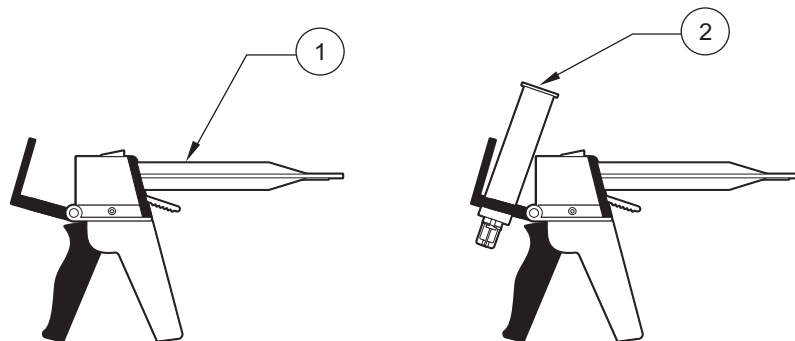

Figure 35 Loading the Cartridge into the Dispensing Gun
3. Load the oil cartridge into the dispensing gun (Figure 35).